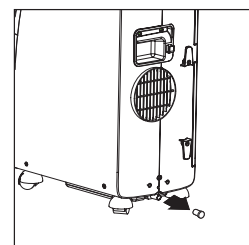

Fig. 19.
- To empty the internal circuit completely of water, remove the cap (fig. 19).